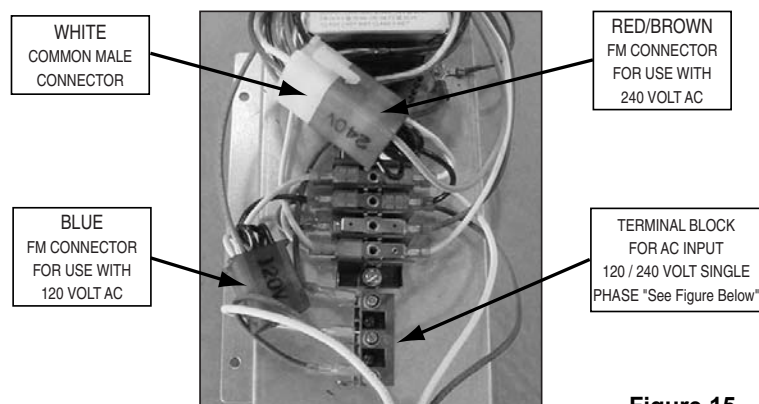
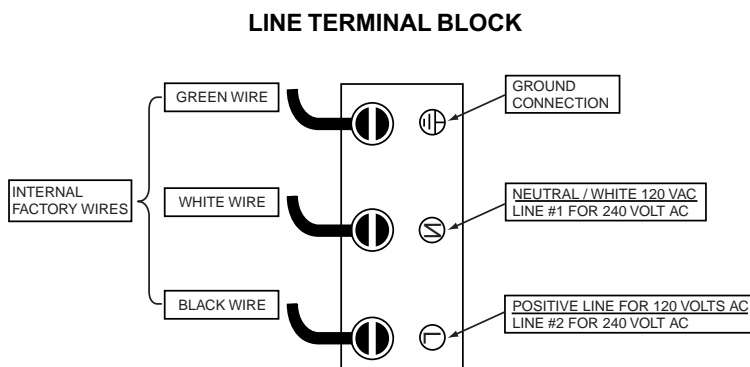

Figure 15.
Figure 16.
- The MiniMax NT Series heater is prewired for 240 volt AC connection using the "RED/BROWN" female connector and the "WHITE" common male connector; see below, Figure 15. If you require the heater to be connected to 120 volts AC, remove the "RED/BROWN" female connector from the "WHITE" common connector; now locate the "BLUE" female connector and plug it into the "WHITE" common connector. When connecting the home wiring to the "Line Terminal Block" inside the junction box, follow the polarity as shown below. Connecting to 120 VAC, make sure that you connect the positive wire to the positive terminal (L), the neutral wire is connected to the neutral terminal (N) and the ground is connected to the ground terminal (GND); see below, Figure 16.
You might need to open the jacket (upper panel) for servicing the Line Terminal Block as shown in Figures 15 & 16.